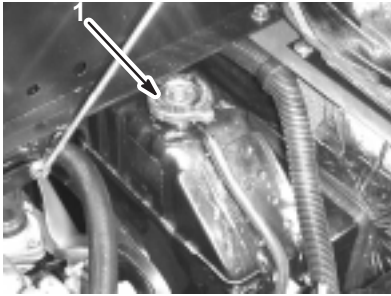

Figure 7
2. When the engine is cool, remove the radiator cap (Fig. 7) and check the coolant level.